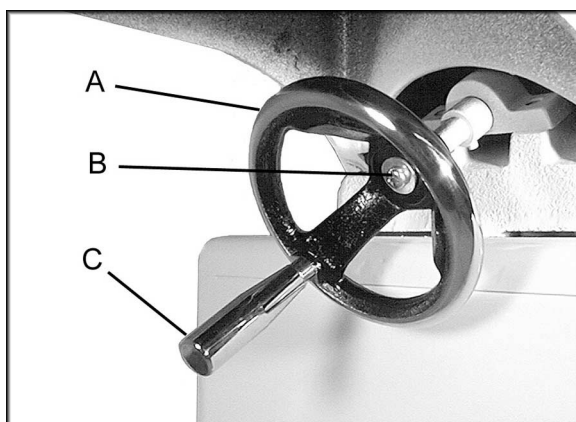

Figure 3
2. Press handwheel (A, Fig. 3) onto shaft, aligning the keyway with the key. If necessary, use a hammer with a block of wood to tap the handwheel completely onto the shaft.
3. Re-install screw and washer (B, Fig. 3).
4. Mount handle (C, Fig. 3) onto handwheel.